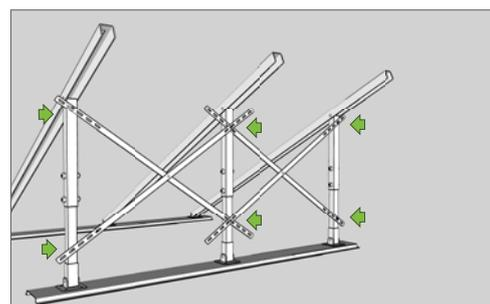

Fig 3
- Attach the two sets of double back brace to rear legs with overlap positioned towards the centre using the tek screws provided. See Fig 3